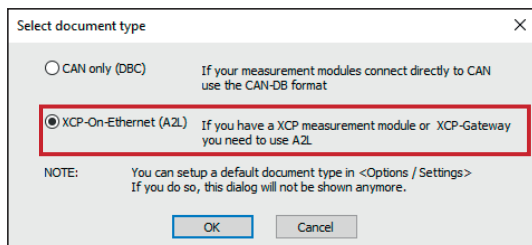

Fig. 6-11: **Select document type** dialog, **XCP-on-Ethernet (A2L)** selected
- ⇒ The **Select document type** dialog (Fig. 6-11) opens.
⇒ The **Select document type** dialog (Fig. 6-11) opens.